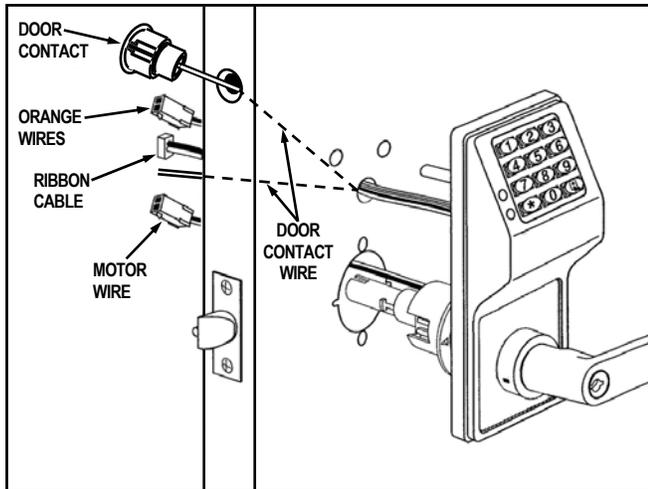

FIG. 7: INSTALL OUTSIDE LOCK BODY
1. Insert motor wire plug through the large 2 1/8" hole; insert the ribbon cable and Lever Monitor Switch plug (orange wires) through the 1" hole as shown in Fig. 7. Insert Door Contact wires into hole in door edge and pull wires through the 1" hole as shown in Fig. 7.